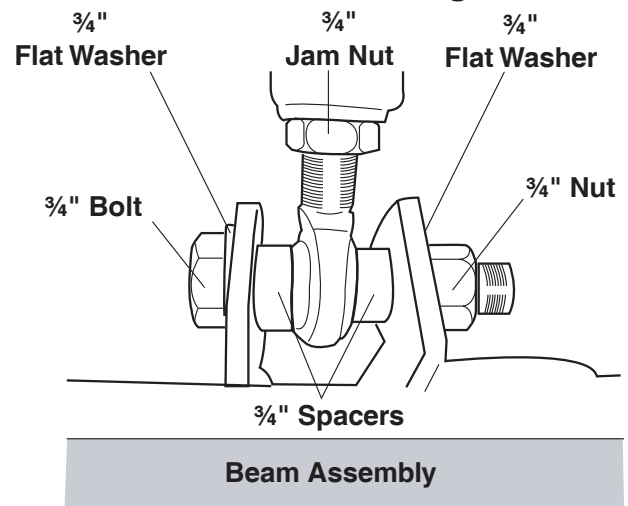

Figure 12
5. Attach the heim to the passenger side beam assembly. Refer to Figure 12 for an installation diagram. Tighten both ends of the panhard rod securely. Turn the heim joint so the cage is parallel with the bracket to prevent suspension travel from interfering. Tighten the jam nut on the heim.